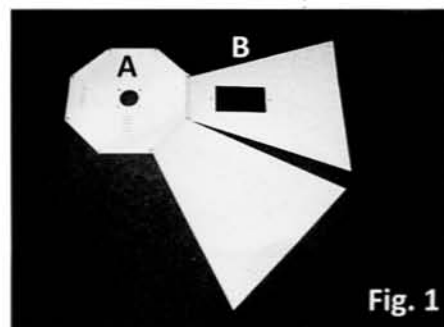
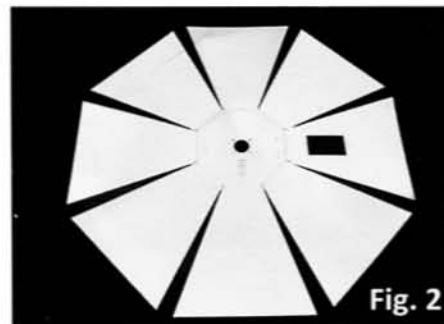

Fig. 1
Fig. 2
2. Lay the center panel (A) on a flat surface with the hanger tabs facing down.
3. Beginning with either edge that is parallel to a hanger tab, start with the reflective side panel (B) that has a large cutout to incorporate the mogul assembly (C). Install the reflective panel (B) by sliding the holes on the narrow end over the studs on the center panel (A) (fig.1)
4. Continue the process by placing the remaining reflective panels (B) onto the center panel (A) and securing with a wing-nut (E)(fig.1). Note that the panel edges overlap each other as you proceed. Some alignment of the panels will be necessary once all the reflective panels are in place (fig.2). **Do NOT over-tighten the wing-nuts until the final stage of assembly.**
8. For vertical use you will NOT need to use the specular insert (G) or horizontal bracket (F). Fasten the mogul assembly (C) to the hole in the center panel (A) and secure using the 4 large screws (F) (fig. 5). Fasten the panel cutout cover (B) to the large cutout on the reflective side panel in Fig. 1. Secure it using the (2) 4mm screws; washers and nuts.
9. Use the included hanger hooks (H) to hang the reflector. The location you choose should be able to support a minimum of 40 pounds.